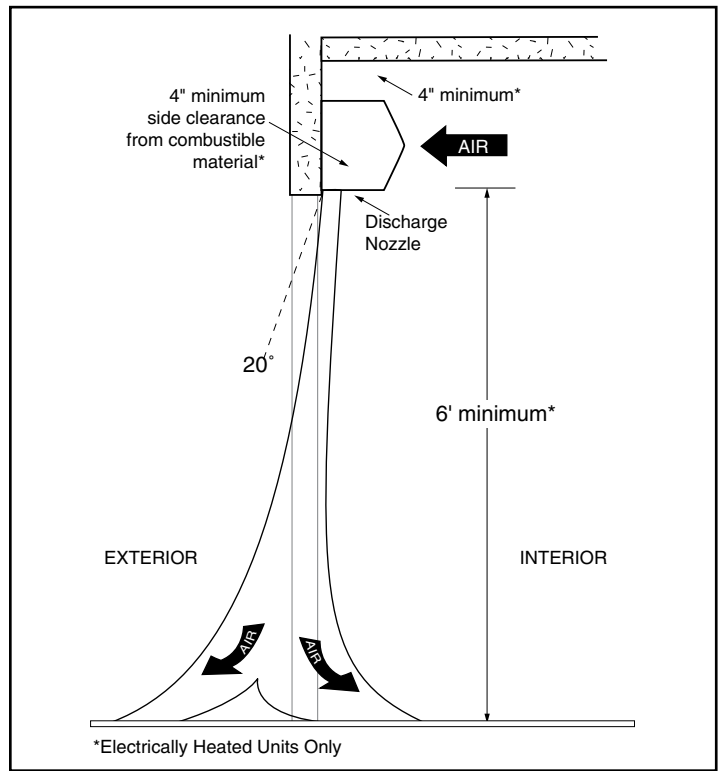

Figure 2
- A. When determining the mounting location for the air curtain(s), make sure that nothing interferes with the curtain of air developed when the discharge vanes are directed from 0° to 20° toward the door opening. If the air stream strikes any obstruction (the top edge of the doorway, a door opening device, etc.), the effectiveness of the air curtain will be greatly reduced. See Figure 2.